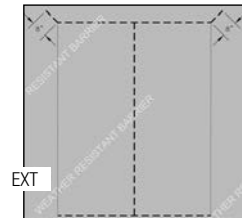

FIG. 2
- E) Make an "I-Cut" in the weather-resistant barrier (WRB). Begin with a horizontal cut along the bottom and the top of the rough opening. Then make a vertical cut in the center from top to bottom. (Fig. 2)